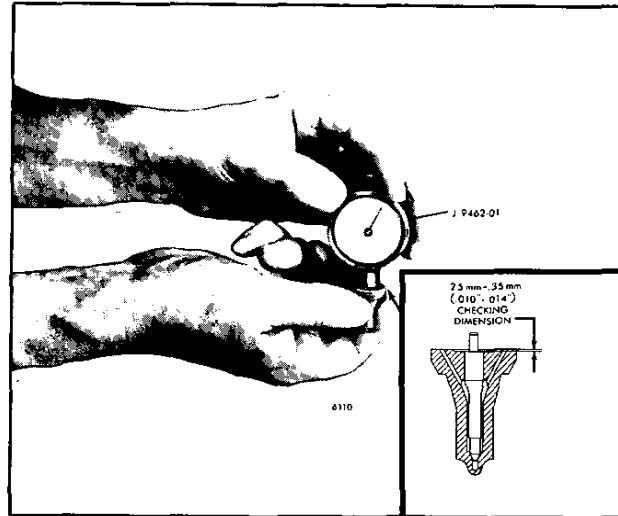

Fig. 11 - Checking Needle Valve Lift
2. Place the spray tip and needle valve assembly tight against the bottom of the gage with the quill of the needle valve in the hole in the plunger as shown in Fig. 11.